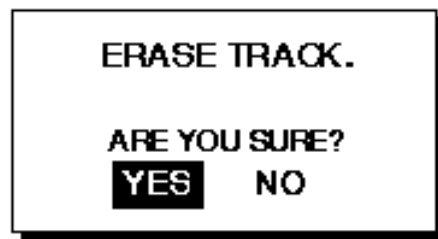

Figure 2-9 Prompt for erasure of track
3. Select "TRACK?" and press the [ENT] key. The message shown in Figure 2-9 appears.